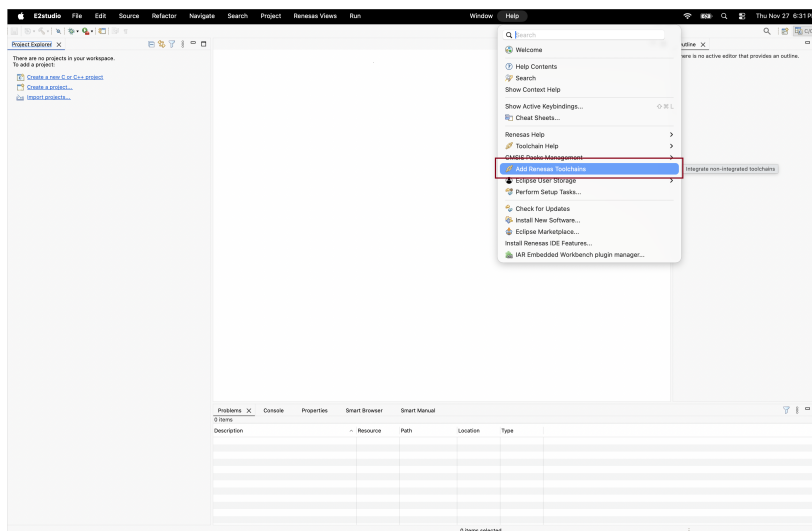

Figure 77. Add Renesas Toolchains
4. After Toolchain Installation is successfully completed, in **e2 studio**, go to **Help > Add Renesas Toolchains**, see Figure 77.